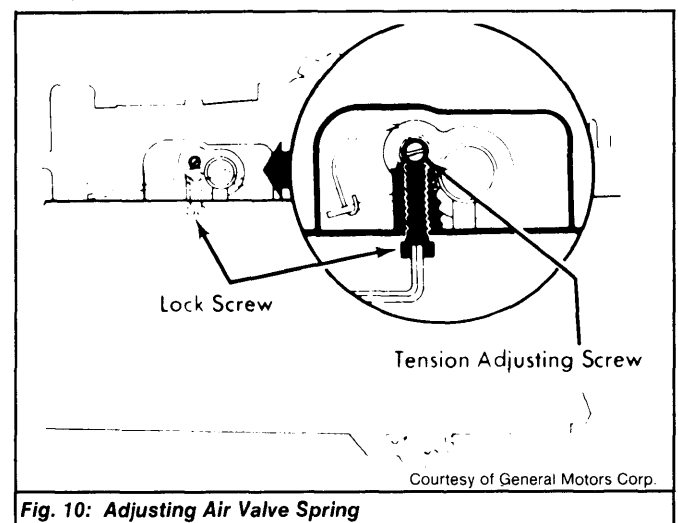

Fig. 10: Adjusting Air Valve Spring
- 1) Use Allen wrench to loosen lock screw. Turn tension adjusting screw counterclockwise until air valve opens part way. See Fig. 10.